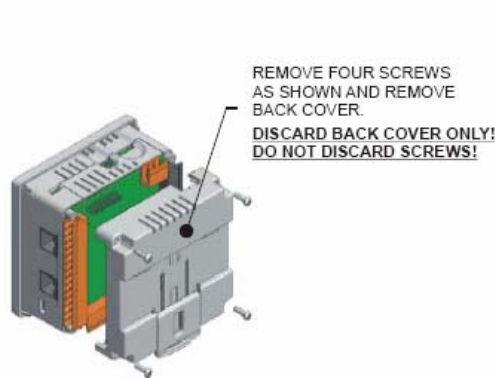

Figure 1 - Removing Back Cover of the XLE
2. Remove the four screws on the back of the XLe unit and remove the back cover. The back cover will be replaced with the extended back cover that ships with the communication add-on. Screws are re-used (Figure 1).